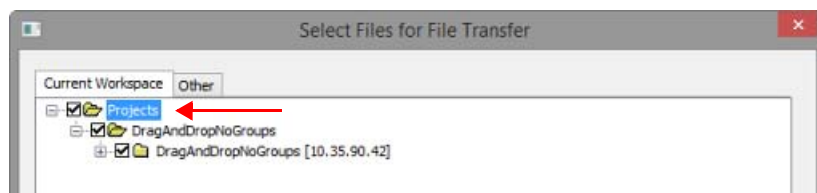

FIG. 242 Select Files for File Transfer dialog
- d. Select the top-level **Projects** folder to select all files in the workspace for transfer (FIG. 242):